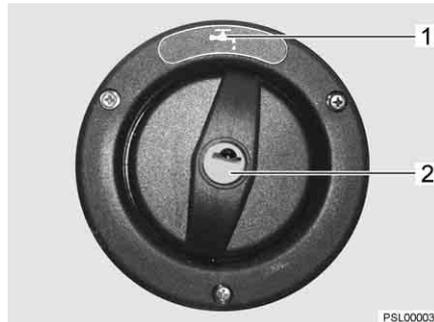

Fig. 243 Cap for the drinking water filler neck
The drinking water filler neck is indicated by the symbol "☰" (Fig. 243,1). The cap is open and closed using the key for the external flap locks.
- Insert key into locking cylinder (Fig. 243,2) and turn a quarter turn in an anticlockwise direction.